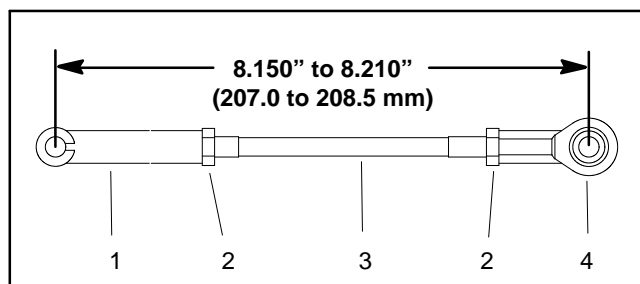

Figure 43
1. If bellcrank rod (item 19) was disassembled, thread rod into clevis until the end of the rod is flush with the inside of the clevis. Then, install balljoint so the centers are from 8.150" to 8.210" (207.0 to 208.5 mm) as shown in Figure 43. Also, make sure that sides of clevis and balljoint are parallel to prevent binding during operation.
2. If drive pulley (item 8) was removed from clutch shaft, install components on shaft:
- A. If inner ball bearing (item 7) was removed from clutch shaft, press new bearing onto shaft.
- B. Slide drive pulley (item 8) onto bearing on clutch shaft.
- C. Press new outer ball bearing (item 9) onto clutch shaft.
- D. Install flocked bearing shield (item 10), wave spring (item 11) and flat washer (item 12) onto clutch shaft. Secure with retaining ring (item 13)
3. Align clutch to clutch shaft and slide clutch onto clutch shaft. Secure clutch to shaft with flange head screw (item 2) and washer (item 4).
4. Secure drive pulley to clutch with three (3) washer head screws. First, torque all three (3) screws from **15 to 40 in-lb (1.7 to 4.5 N-m)**. Then, torque all screws from **95 to 105 in-lb (10.7 to 11.8 N-m)**.
5. Position clutch housing to clutch and secure with three (3) flange head screws (item 2). Make sure that grommet (item 3) is secure on housing.
6. Install clutch assembly into transmission housing. Secure clutch housing to transmission housing with four (4) washer head screws (item 15). Tighten screws as follows:
- A. First, torque all four (4) screws from **15 to 40 in-lb (1.7 to 4.5 N-m)**.